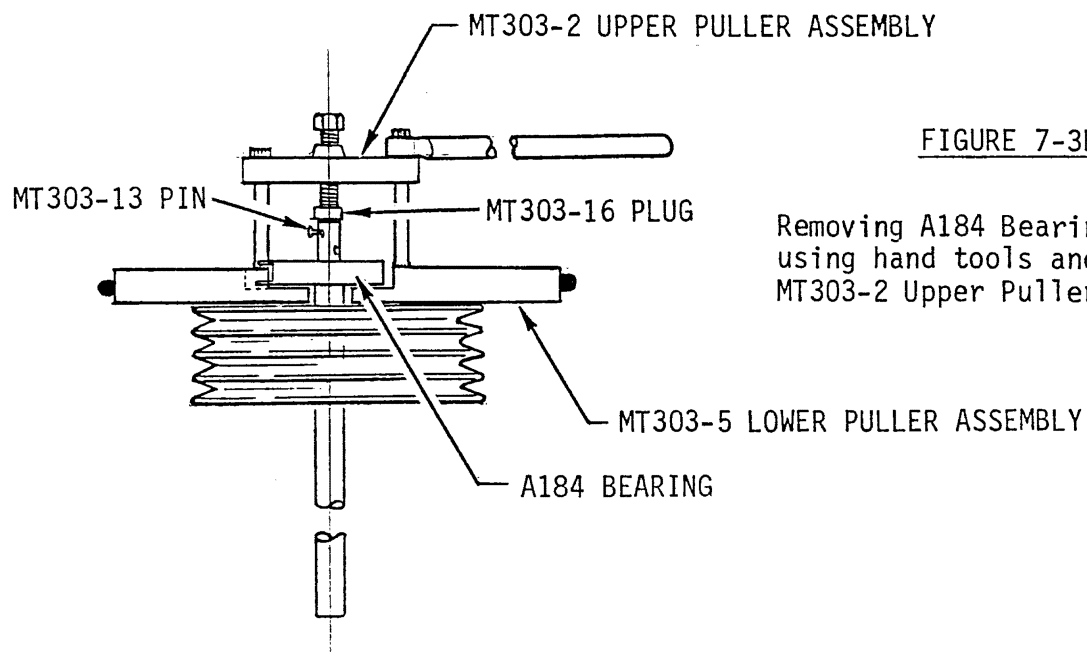

FIGURE 7-3B
2. If press is not available, assemble MT303-2 upper puller assembly with MT303-5 lower puller assembly on clutch per Figure 7-3B. Install MT303-16 plug in short end of clutch shaft and secure with MT303-13 pin. Ensure extractor bolt threads are lubricated with anti-seize. Remove bearing by holding handle and tightening extractor bolt.